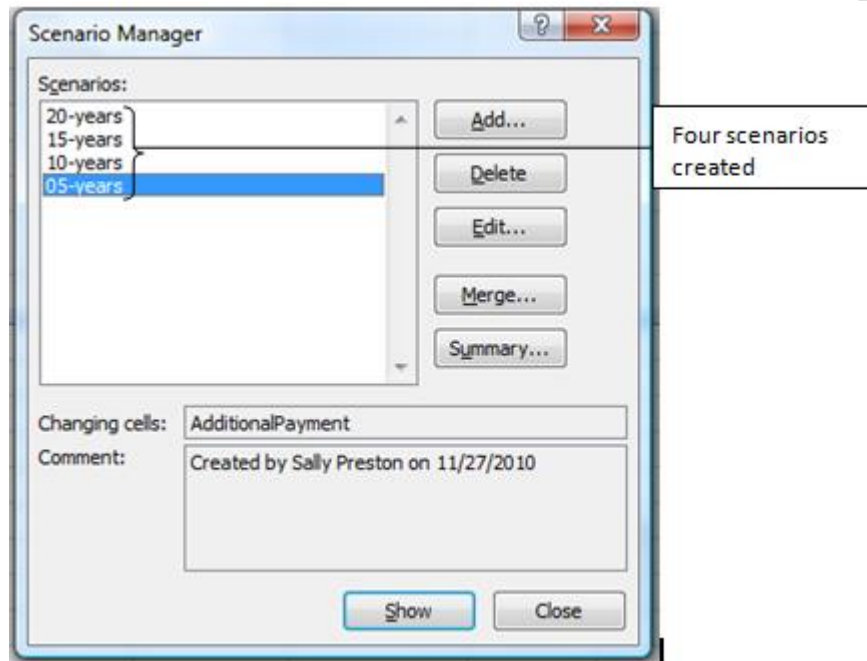

Figure 11.21. Four alternatives are saved using in Scenario Manager.
12. Display the Scenario Manager dialog box and save this scenario as **05-years**. (The name 05 is used so it sorts properly in the Scenario Report). Click OK twice, but leave the Scenario Manager dialog box open. After all four scenarios have been created, the Scenario Manager lists the alternatives as shown in Figure 11.21.